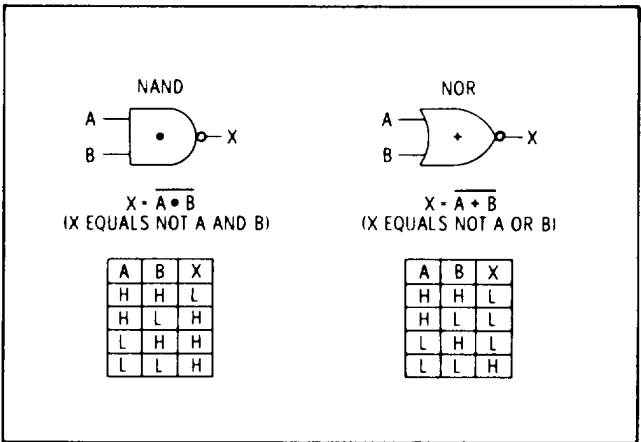

Figure 8-6. Basic NAND and NOR Gates
**8-39. Logic Inversion.** Adding inversion to AND and OR gates changes their characteristics. Inversion is usually accomplished by adding an inverter stage (common emitter) in front of an input or after an output. A circle added to the input or output leads indicates the portion of the circuit in which the inversion takes place. The simplest of these devices are AND and OR gates in which the output is inverted. These gates are called NAND (for Not AND) and NOR (for Not OR). Basic NAND and NOR gates are shown in Figure 8-6. When all inputs and outputs of an AND gate are inverted, it functions as an OR gate. When all inputs and outputs of an OR gate are inverted, it